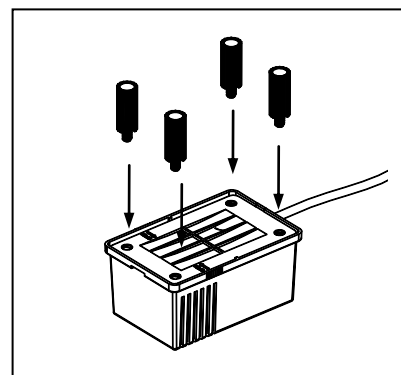

Fig. 9
9. If needed, attach the extensions to the bottom of the filter box. Fig. 9